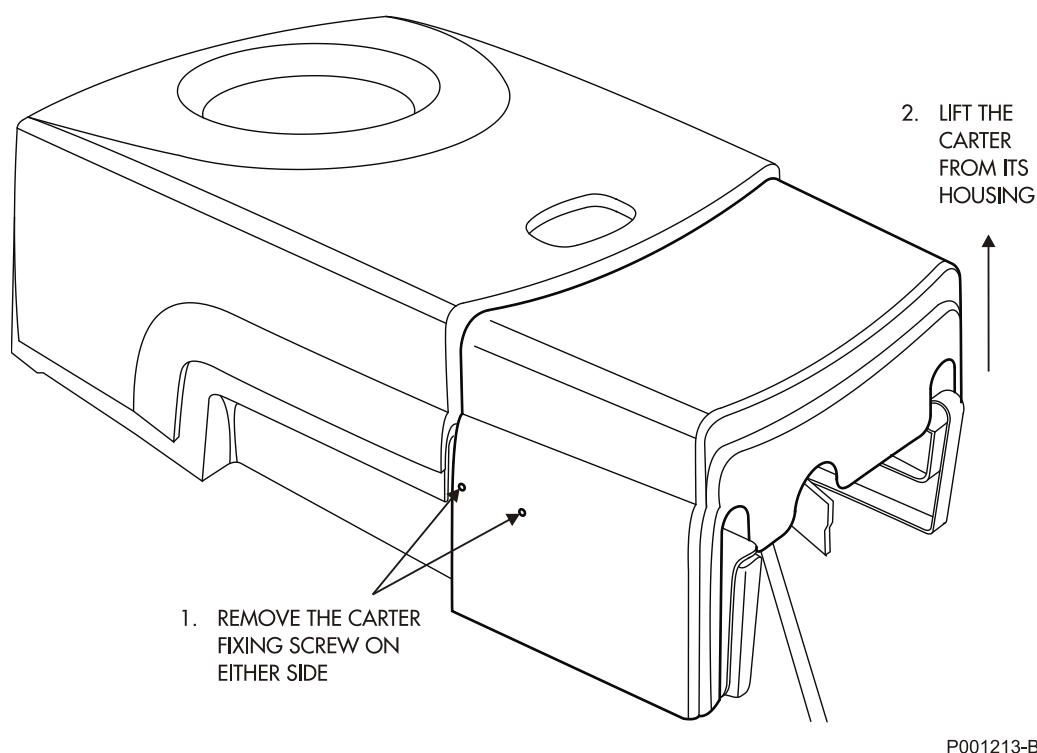

Figure 14: Removing the connector protective cover
- 1) Remove the four screws from the inverter sides. See Figure 14.